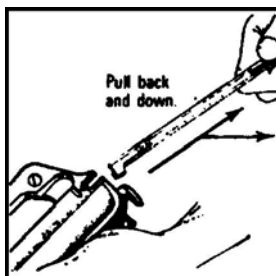

Figure 11. Removing the charging handle.
- i. Remove the charging handle (Figure 11).